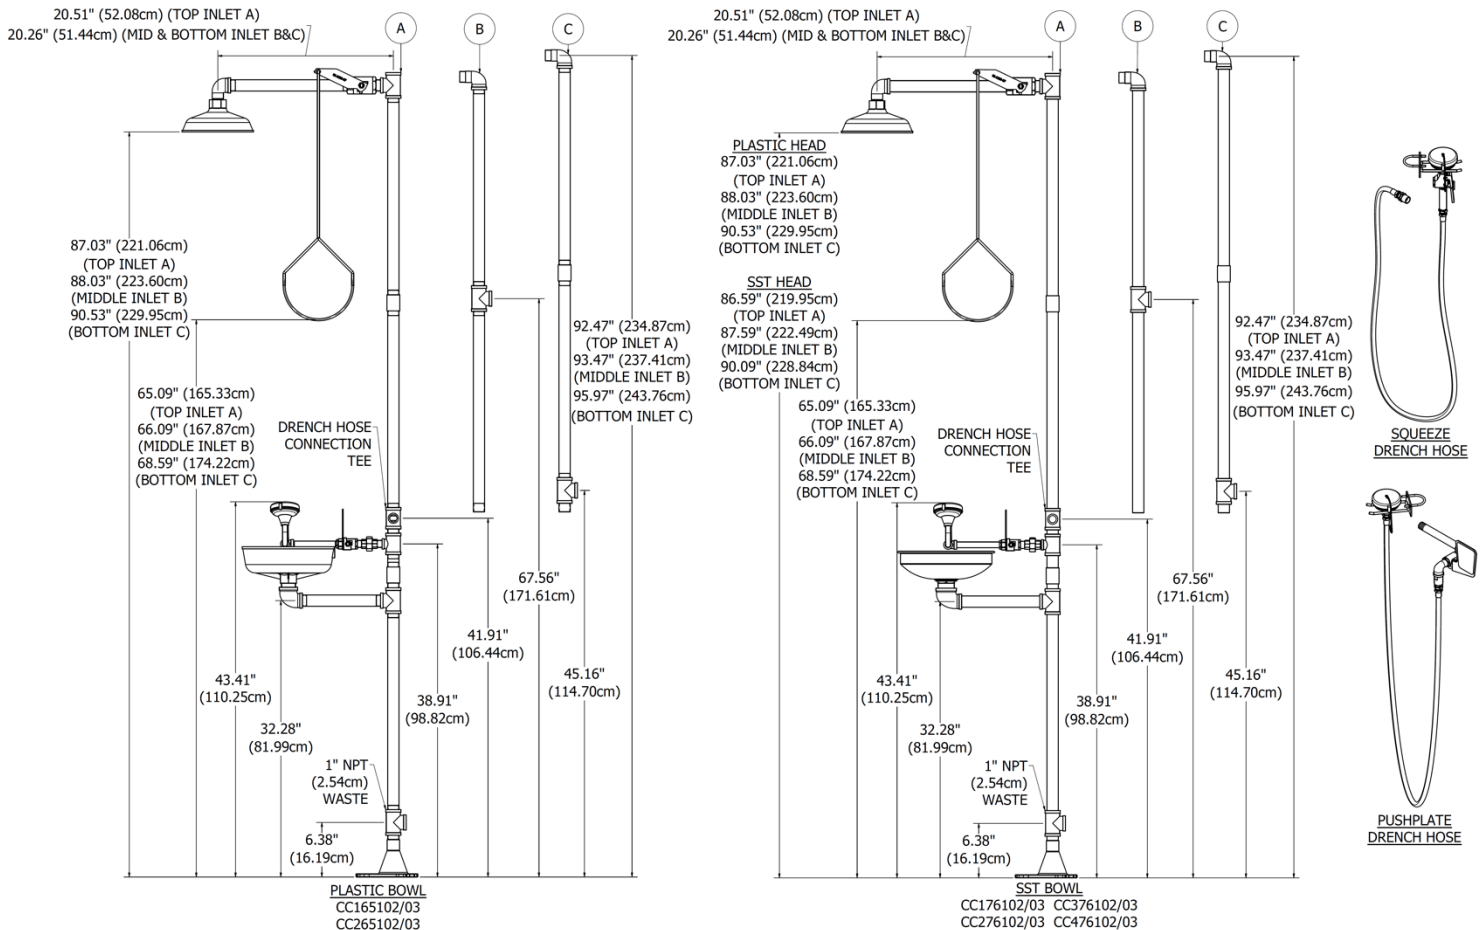

FIGURE 1
5. Assemble components in order based on sequence numbers provided on **Figure 4** first then the sequence provided in **Figure 5**. The fittings use for each inlet option A, B, or C (see **Figure 1** and **notes** on Page 1) are indicated in sequence #4, #6, and #8.